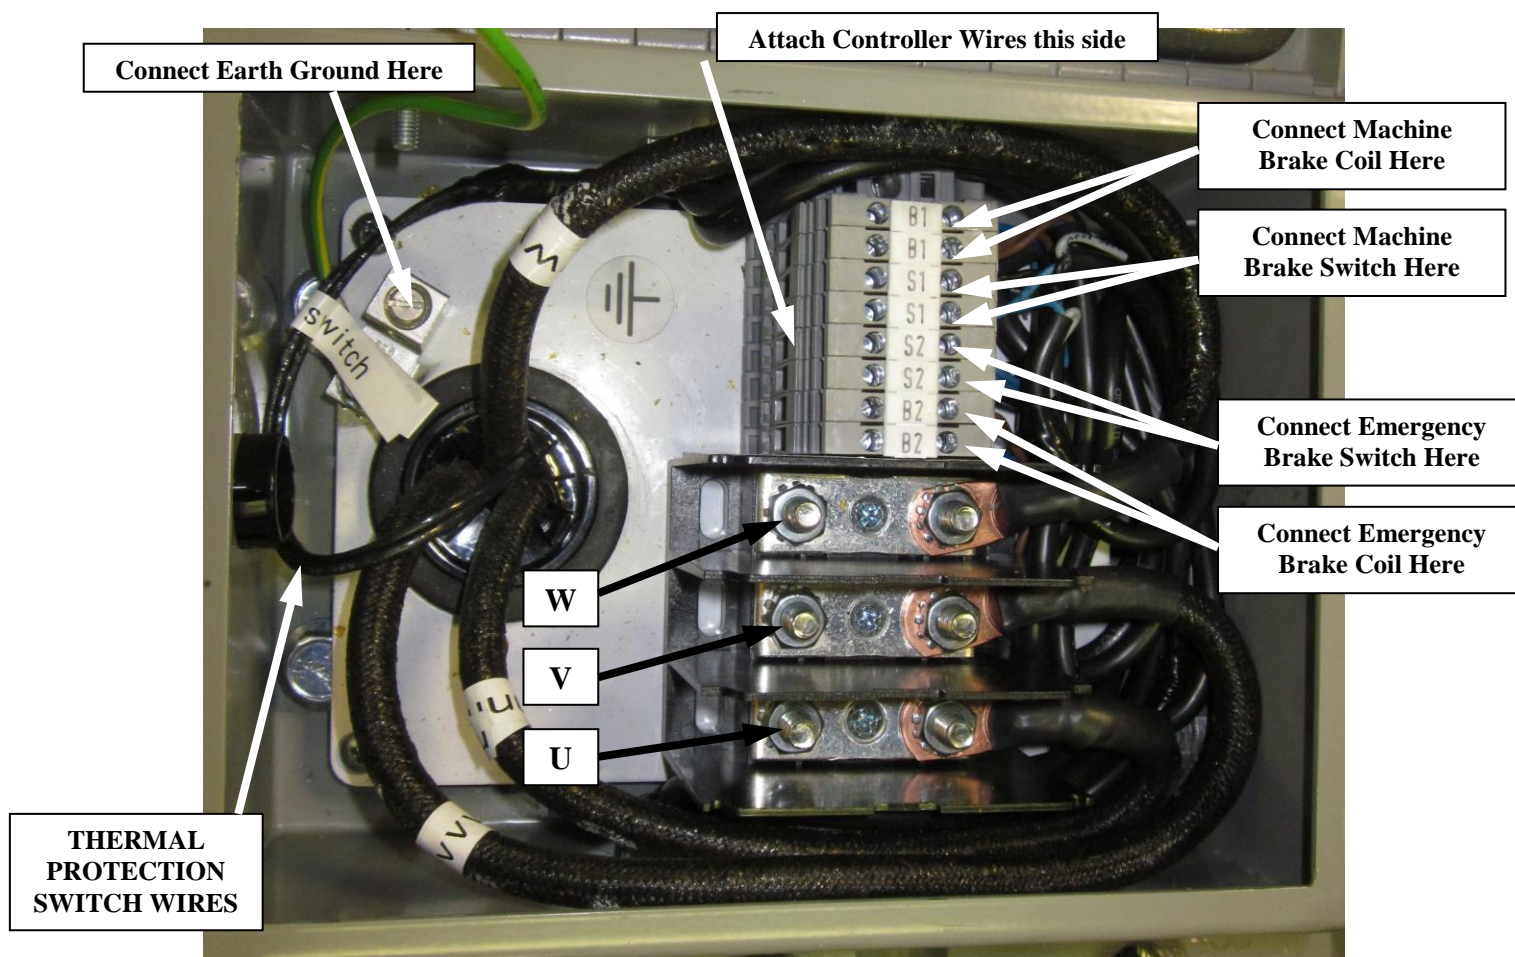

Figure 12
- Thermal Protection Switch (TPS) is wired with leads labeled and supplied into the machine electrical enclosure. Refer to Figure 12.
- Connect the U-V-W lines from the drive as shown in Figure 12.
- Connect the machine and emergency brakes where shown in Figure 12.